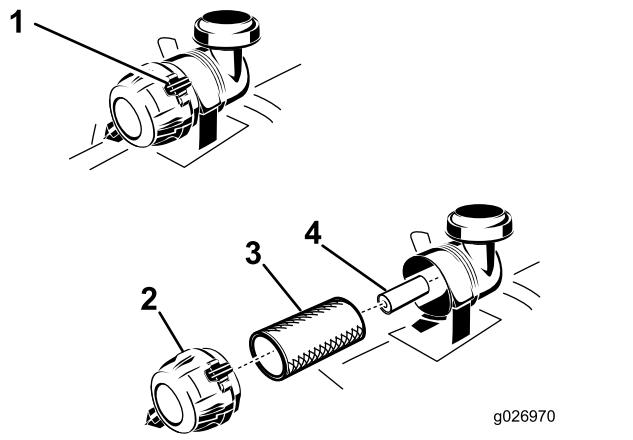

Figure 41
4. Release the retaining clamps on the air cleaner and pull the air-cleaner cover off the air-cleaner body (Figure 41).
6. Gently slide the primary filter out of the air-cleaner body (Figure 41).
2. If you are replacing the inner filter, carefully slide it into the filter body (Figure 41).
3. Carefully slide the primary filter over the safety filter (Figure 41).
4. Install the air-cleaner cover with the breather cap down, and rotate so that the retaining clamps lock the cover in place (Figure 41).